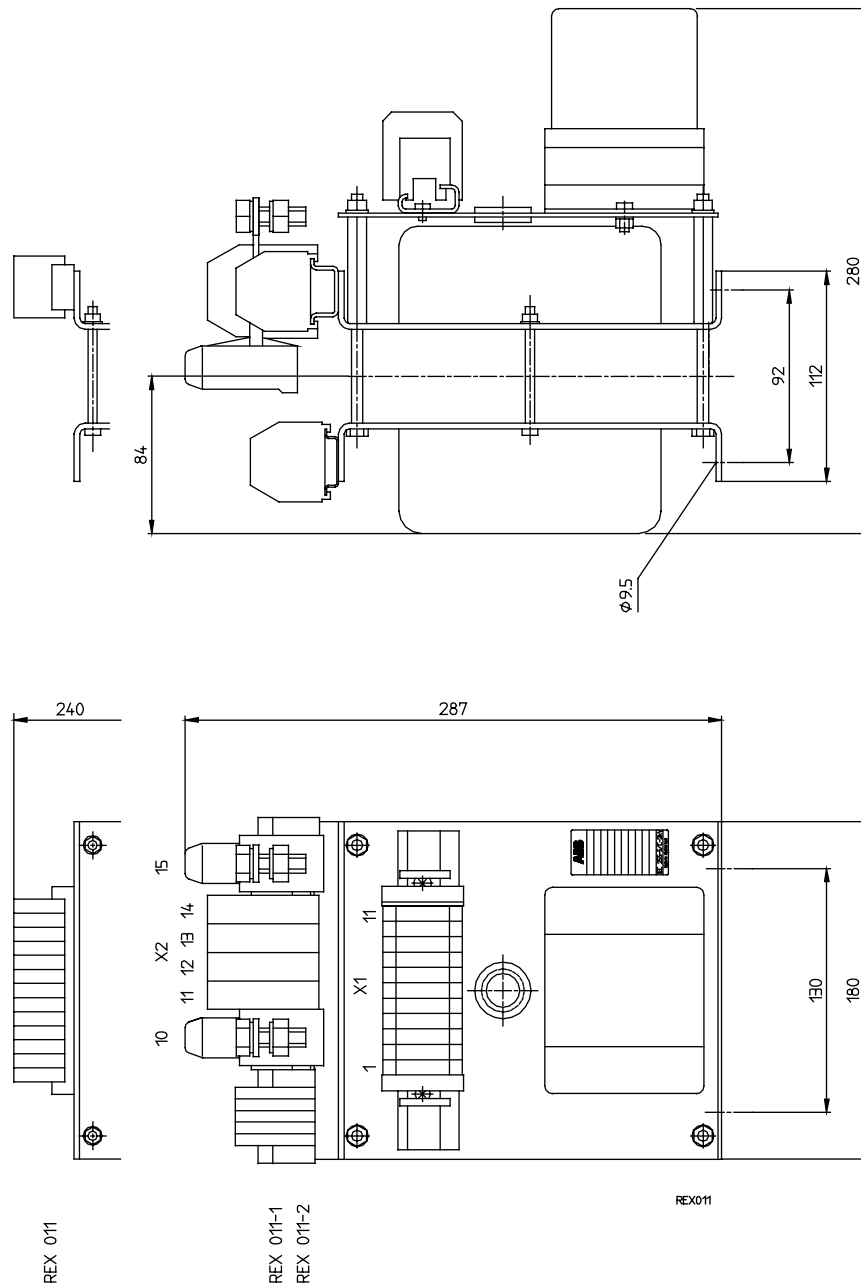

Fig. 2.29 Dimensioned drawing of the injection transformer block Type REX 011 (HESG 324 388)
- Fig. 2.29 Dimensioned drawing of the injection transformer block Type REX 011